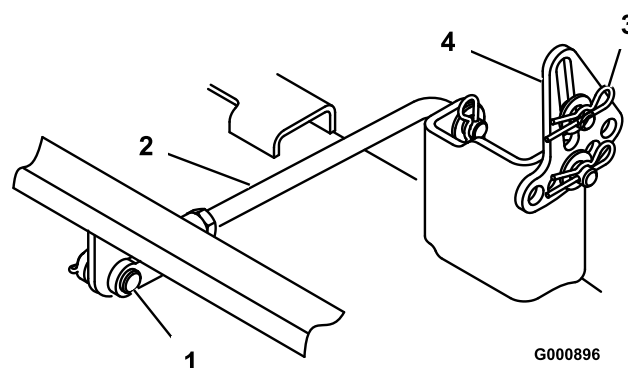

Figure 47
6. Remove the hairpin cotter and clevis pin from the rear trunion rod (Figure 47) on each side of the mower.
7. Remove the hairpin cotter and washer at the mower leveling brackets (Figure 47) on each side of the mower. Note which hole the leveling bracket is mounted in for future installation. Slide the brackets off of the mounting pin.
6. Attach the rear trunion rod to the tractor with the clevis pin and hairpin cotter (Figure 47) on each side of the mower.
7. Slide the leveling brackets onto the mounting pins and secure them with the washers and hairpin cotters (Figure 47).